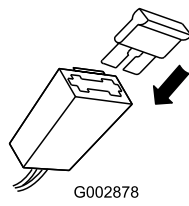

Figure 28
2. Insert the fuse into the fuse holder (Figure 28).